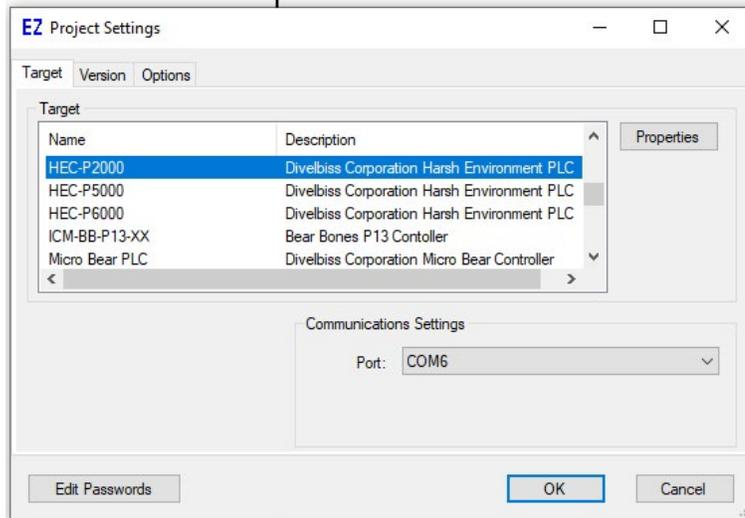

Figure 1.1 - Project Settings Window
1. In EZ LADDER, from the File Menu at the top, click **PROJECT** then **SETTINGS**. This will open the *Project Settings* Window. Select **HEC-P2000** as the target from the choices. Refer to Figure 1.1. Verify the Port is correct and the baud rate is 57600.